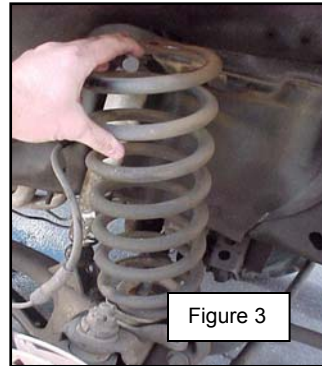

Figure 3
6. Remove the coil spring and the coil spring rubber isolator. See figure 3.